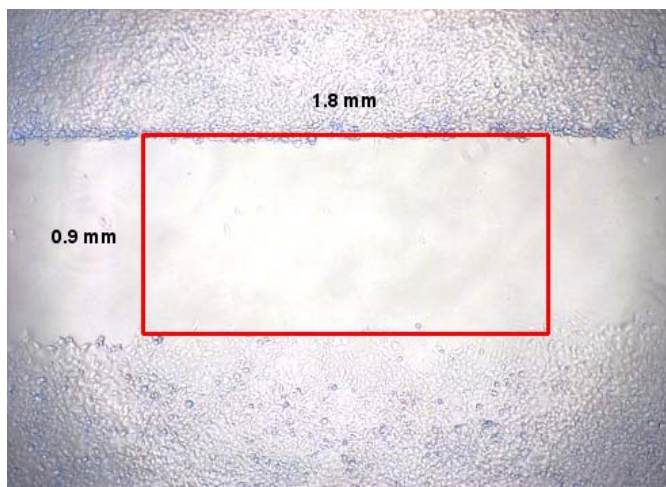

Figure 1: Example of Wound Field Surface Area.
11. For best results, use a reticle with micrometer measurements to create a defined surface area in order to monitor the closing, or “healing” of the wound. Focus on the center of the wound field. Create the defined surface area by multiplying the width of the wound field (0.9 mm) by the length. See the example in Figure 1 below.
1. Determine the surface area of the defined wound area (see Figure 1). Total Surface Area = 0.9mm x length